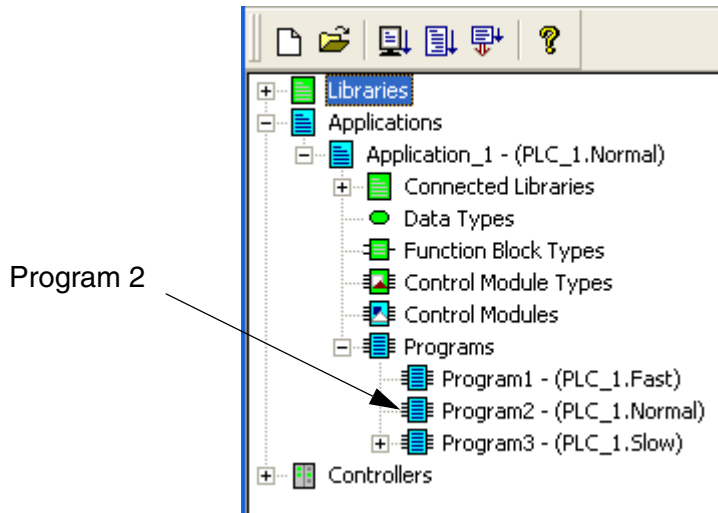

Figure 17. Programs folder expanded with three preset programs available
1. In the Project Explorer, expand the project tree to see **Program2**, (Figure 17). Double-click the icon to open the Program editor.
Make sure the program editor is open, (see Figure 17, to open editor)